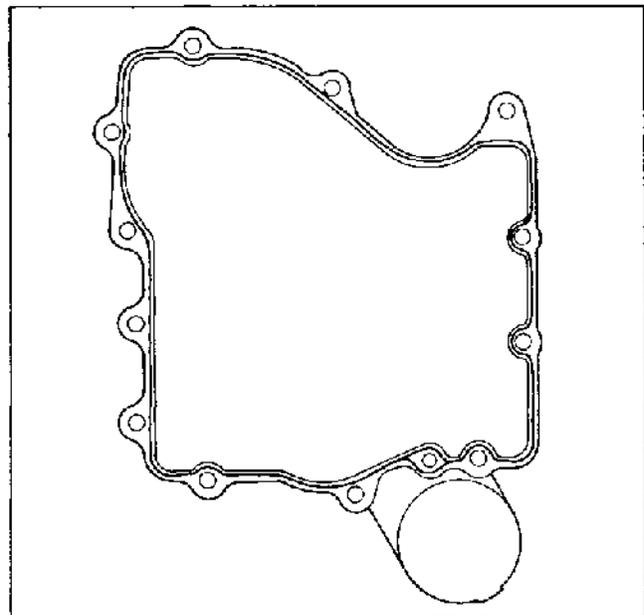

Figure 11-16. Closure Plate Sealant Pattern.
2. Apply a 1/16" bead of sealant to the *closure plate* as shown in Figure 11-16.